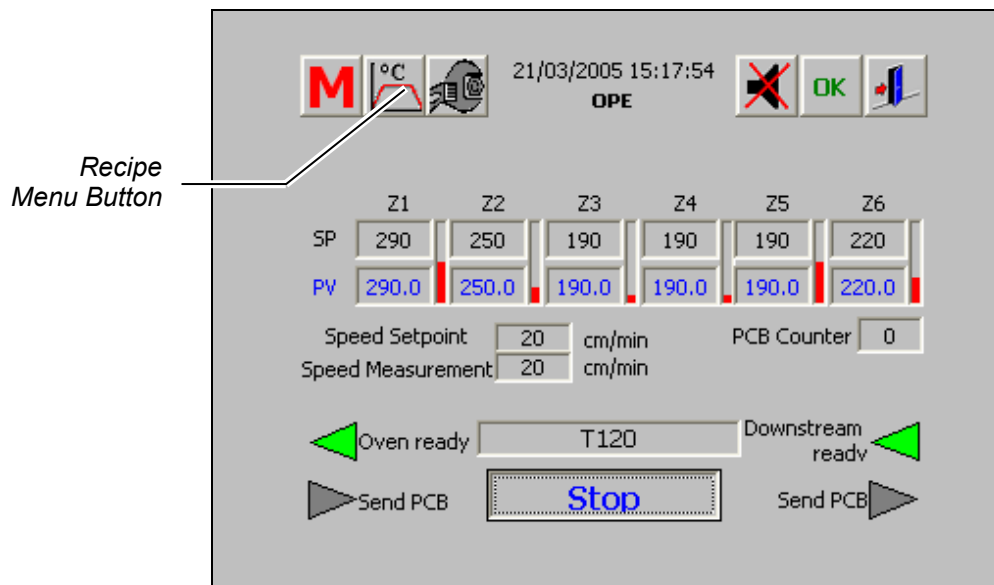
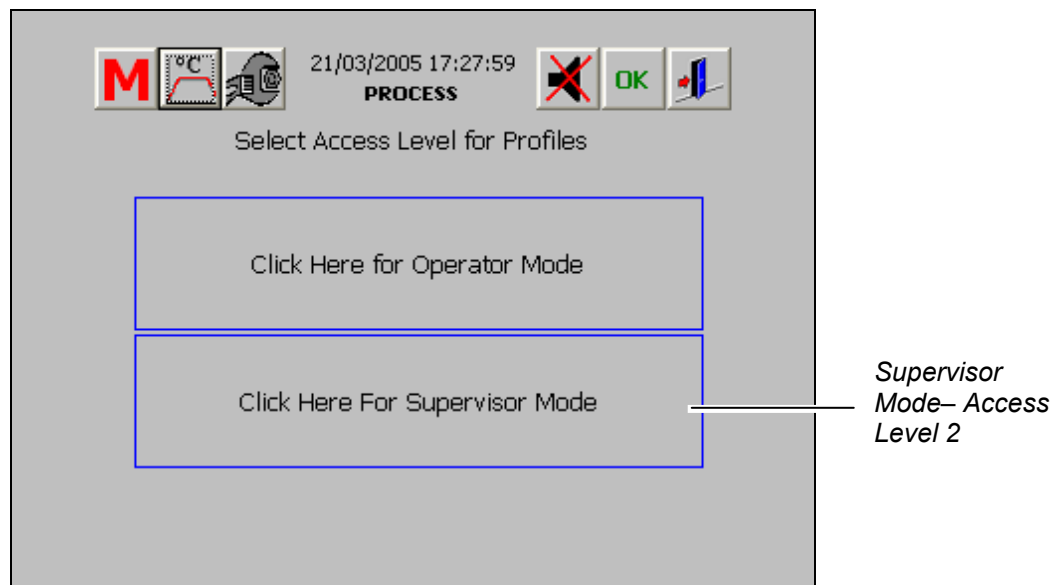

Figure 6-6 Main Menu
Figure 6-13 Access Levels
1. To download multiple recipes, from the Main Menu click on the **Recipe Menu** button (Figure 6-6).
1. To access recipe management, from the Main Menu click the **Recipe Menu** button (see Figure 6-6). Click on the **Supervisor Mode** button (Figure 6-13).